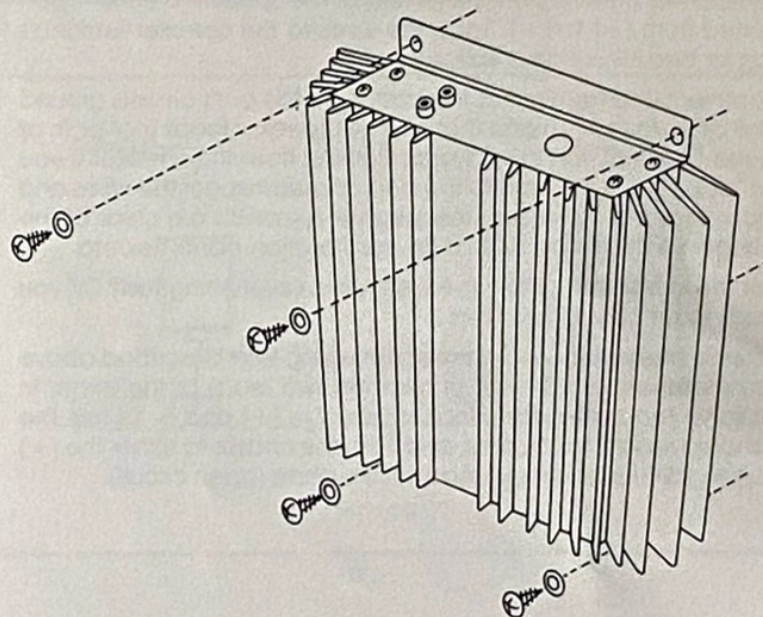

Figure 1
- Position the amplifier where it can get adequate air flow for cooling. The heatsink fins should be vertical for proper convection cooling. See Figure 1.